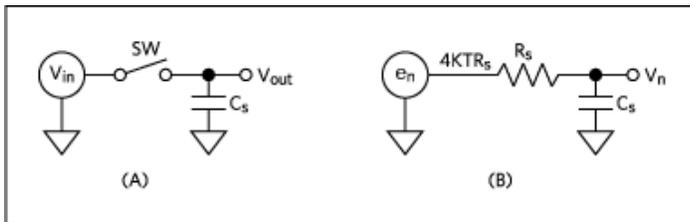

Figure 10. A simplified sample-and-hold circuit (A) and noise-equivalent circuit (B).
**Figure 10(A)** shows a simplified sample-and-hold circuit found at the input of ADCs. When the switch is closed the input voltage source ( $V_{in}$ ) charges the sampling capacitor ( $C_s$ ) to voltage at  $V_{in}$ . **Figure 10(B)** shows the noise-equivalent circuit. In this latter configuration, the switch is replaced by  $R_s$  which is the combined on-resistance of the switch and output impedance of the voltage source;  $V_{in}$  is replaced by the noise spectral density ( $e_n$ ); and  $V_{out}$  is replaced by the output noise voltage ( $V_n$ ). When the switch is closed,  $C_s$  is charged to the input voltage ( $V_{in}$ ) plus the noise voltage ( $V_n$ ).